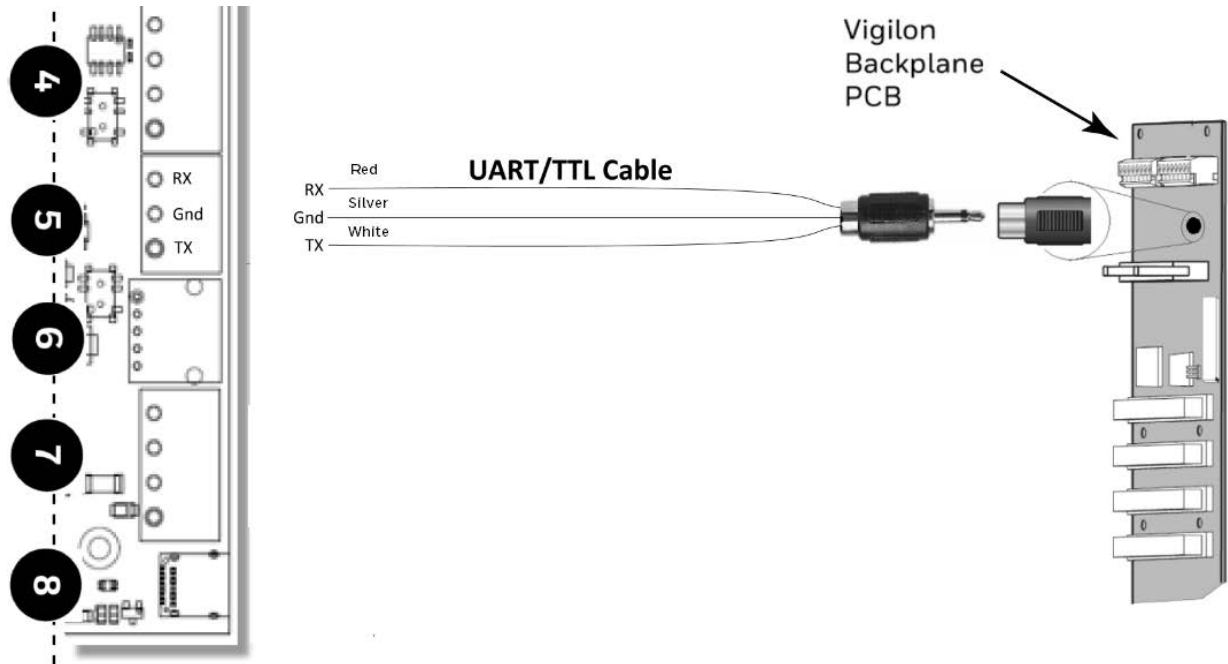

Figure C.25: Vigilon Panels: UART/TTL Connection
1. Within the panel, find the backplane PCB board (see Figure C.25).